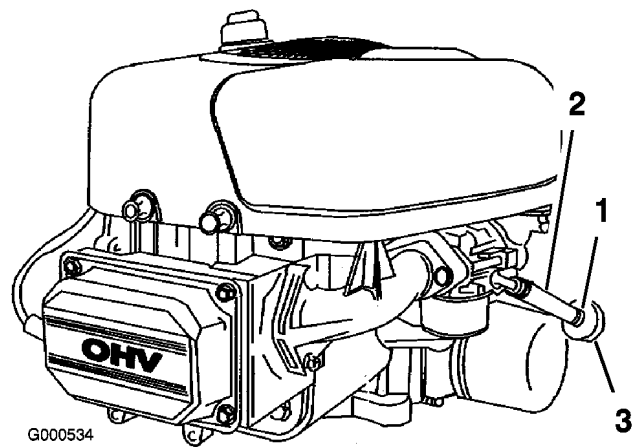

Figure 31
4. Squeeze the ends of the hose clamps together and slide them away from the filter (Figure 31).
6. Install a new filter and move the hose clamps close to the filter (Figure 31).